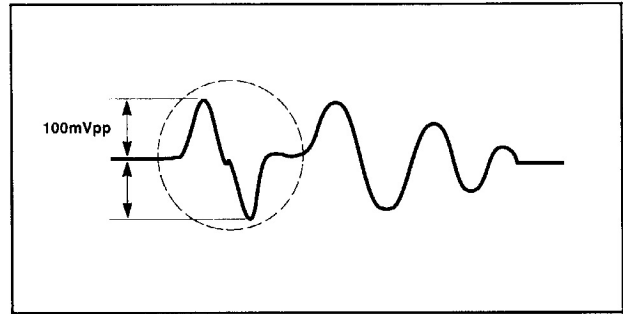

Figure 3
16. Adjust oscilloscope trigger level until *punch out* transient is easily detectable. See Figure 3.